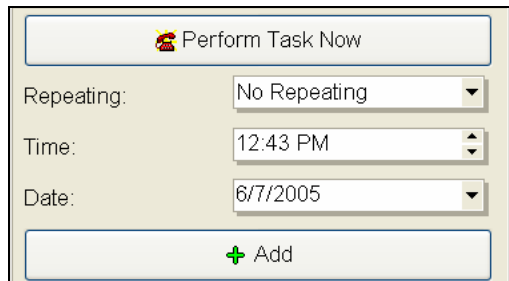

Figure 11.2.4
1. Click on the **Perform Task Now** button to initiate the task immediately. This task **will only be performed once** (Figure 11.2.4).